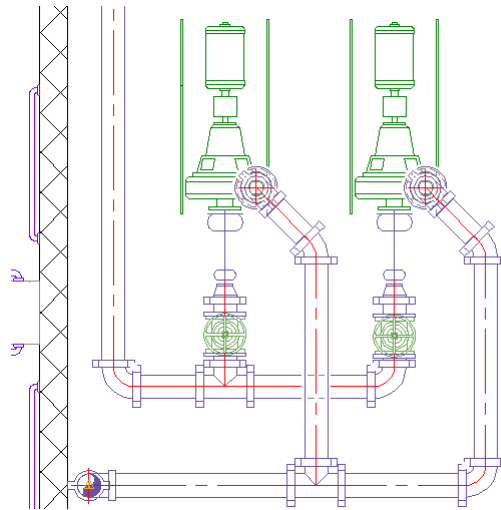

Figure 6.48
8. Pick on the 6" pipe leading to the left pump's suction end and repeat the process to add another valve (see Figure 6.48).